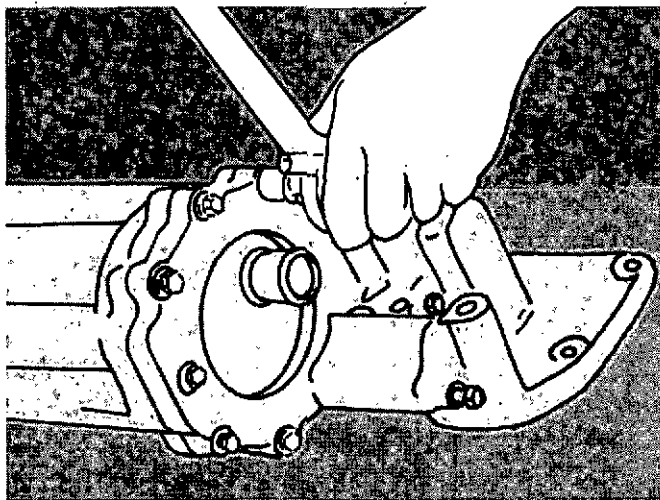

Fig. 7-26. Remove The Cover Plate.
1. Remove the cover plate from the housing and discard the gasket, Fig. 7-26.